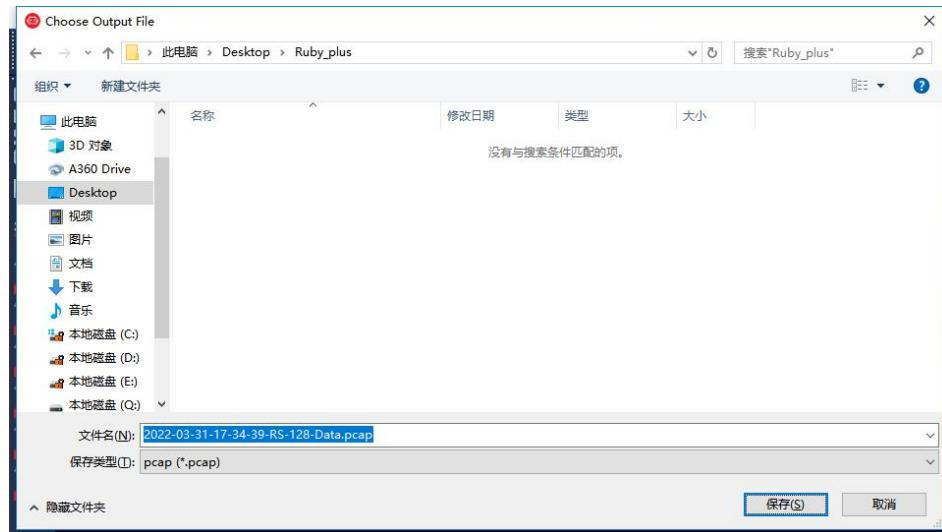

Figure C-6 RSView Record Saving Dialog.
2. In the “Choose Output File” dialog that pops up, set the save path and file name, and then click the **Save (S)** button (Figure C-6). RSView will start to write the packet file into the target pcap